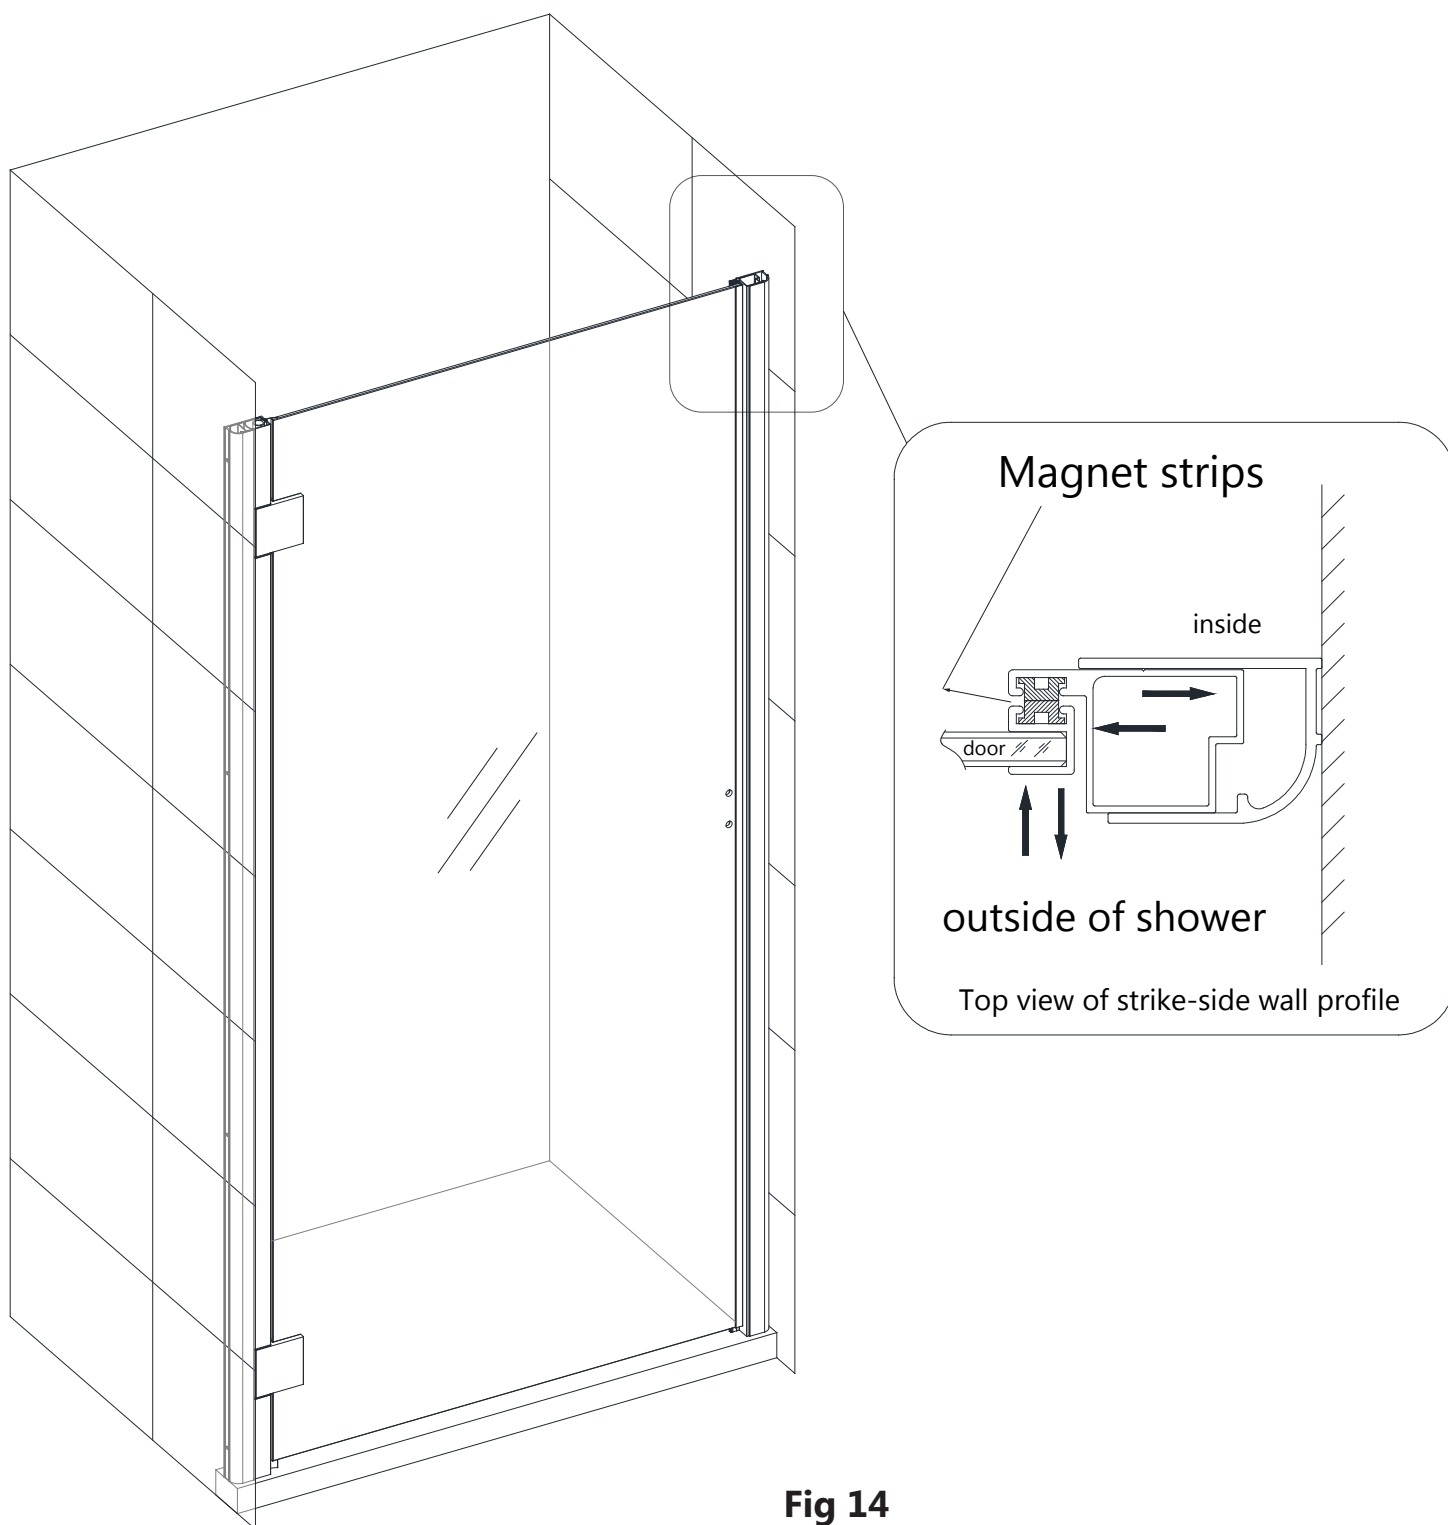

Fig 14
11. The **Strike Rail (#07)** magnet on the **Door Glass (#06)** must line up with the magnet on the **Strike Profile (#09)**. Make sure the magnets make even contact from top to bottom. (**Fig 14**)